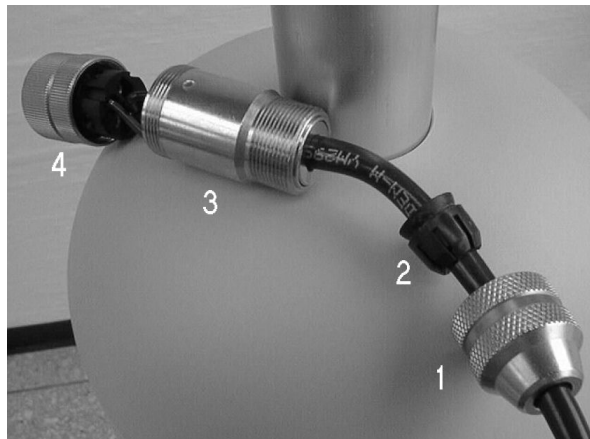
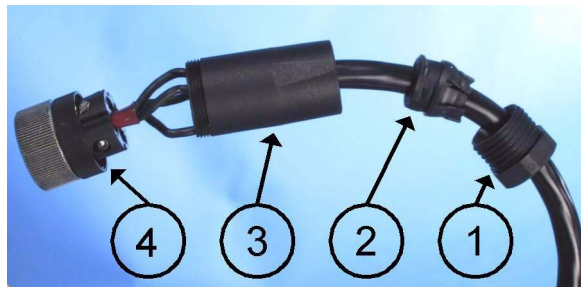

Figure 51 **Metallic Connector for Solar Panel**
Figure 52 **Plastic Connector for Solar Panel**
4. Thread the cable through the connector parts in the indicated order 1-2-3-4. Parts for a metallic connector are shown in Figure 51 on page 68. Parts for a plastic connector are shown in Figure 52 on page 68.